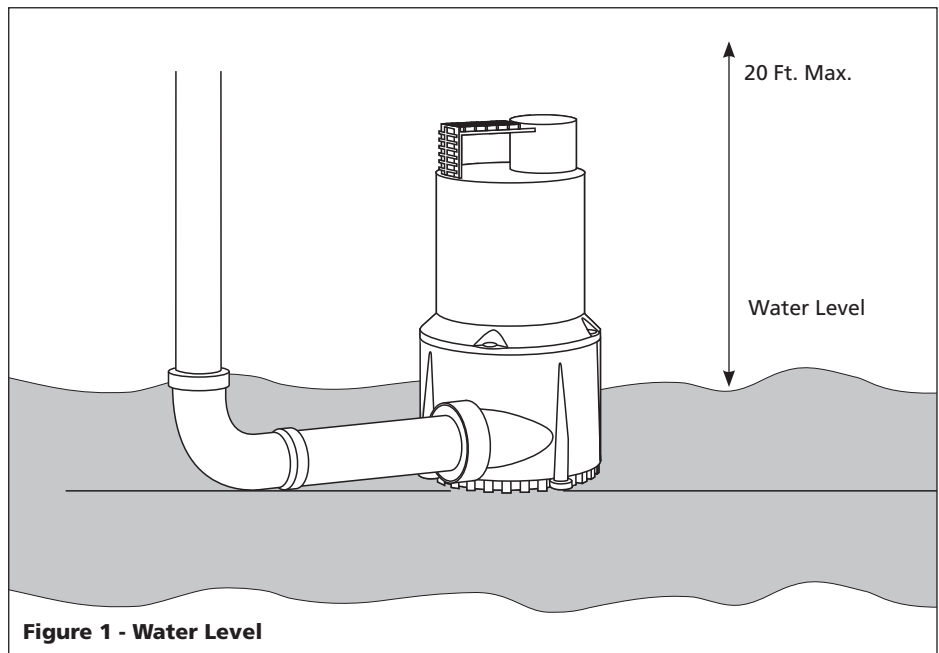

Figure 1 - Water Level
- Plug power cord into a grounded 115 volt GFCI power outlet. If pump operates correctly proceed to step #3. If pump does NOT operate, unplug power cord and proceed to maintenance guideline item 4 in this section.
b. Verify pumping height does NOT exceed 20 feet (See Figure 1). If pumping height is greater than 20 feet, this pump will NOT work.